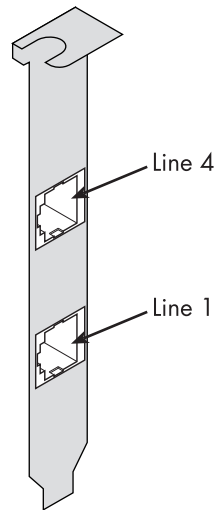

Figure 4. DialFire BRI connectors
9. Connect the telephone line(s) to the adapter (see figure 4 for connector locations). Adapter installation is complete. Refer to Chapter 4, “Driver installation and configuration”.